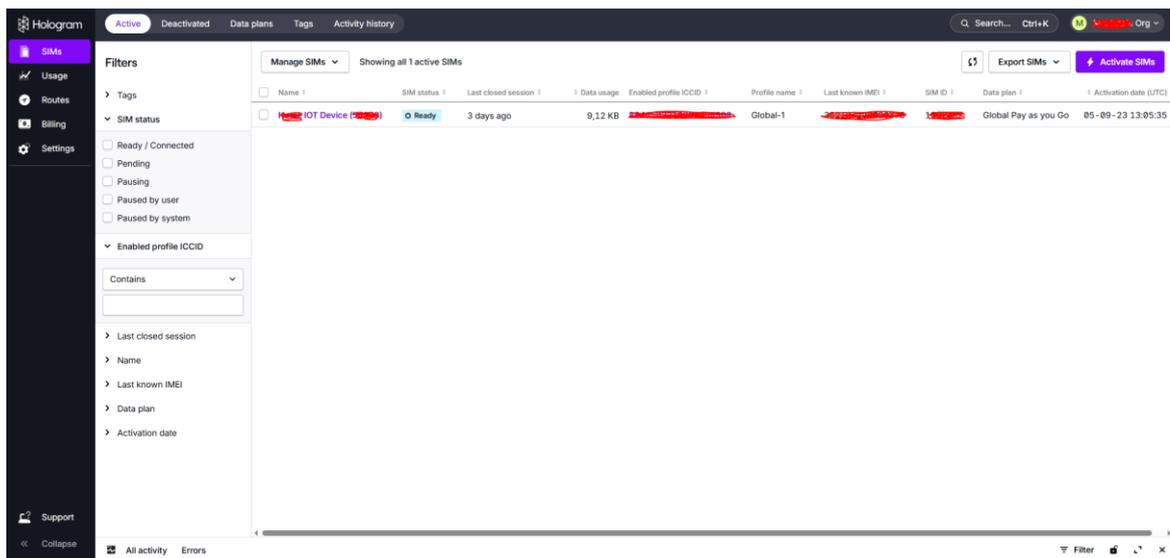

Figure 3-1. Hologram Dashboard homepage – XT6000 Device
8. Then go to Hologram Dashboard homepage in Hologram website and select the device SIM as shown in figure 3-1 and wait 1-2 minutes to receive the message that confirm the XT6000 device is registered. It can be seen the message by opening the drawer “All activity” at bottom of the Hologram Dashboard and then a new window will be opened for messages. This window shows all messages that are received and transmitted to the XT6000.